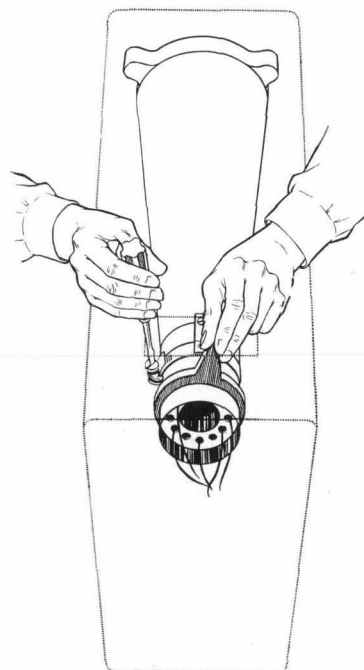

Fig. 14. *Crt socket is provided with positioning lever to facilitate angular positioning of tube.*
- The crt is provided with a lever so that angular positioning of the tube can be adjusted very easily (Fig. 14).
This arrangement is shown in Fig. 14. The tube socket is circumferentially clamped with a simple clamp which can be loosened or tightened by one hand with a screwdriver. In addition, a lever is provided on the crt socket so that the tube can be rotated easily with the other hand. This arrangement both simplifies accurate tube orientation and makes it possible to orient the tube in a matter of seconds. The procedure can be followed safely while the tube is turned on.